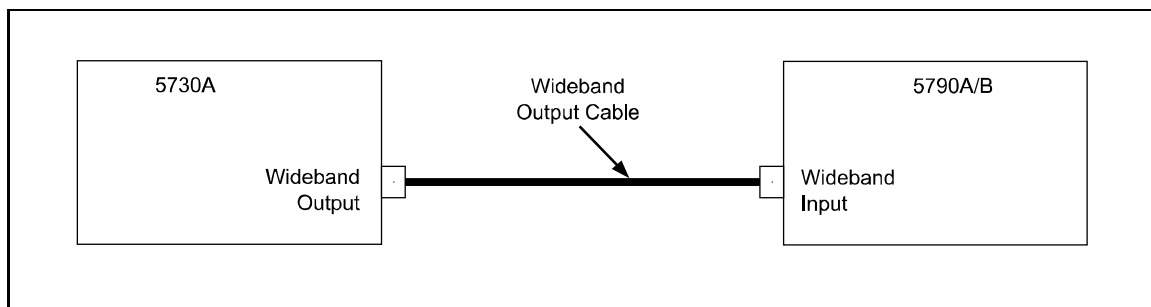

Figure 8. Wideband Flatness Calibration Connections
3. Connect the equipment as shown in Figure 8. Note that the wideband cable is connected to the 5790A/B directly, the termination is not used.